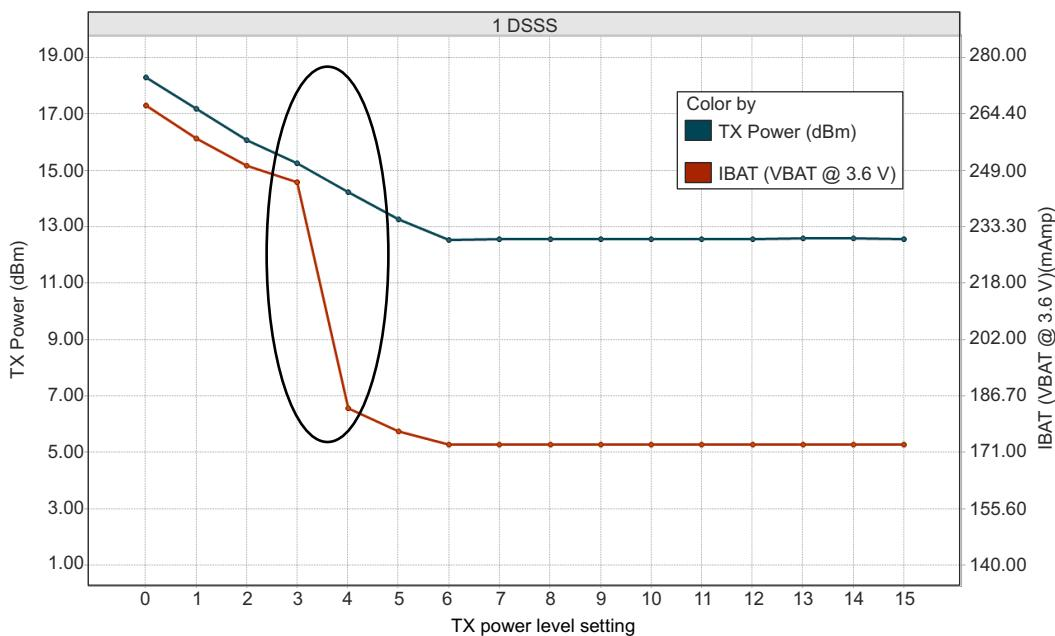
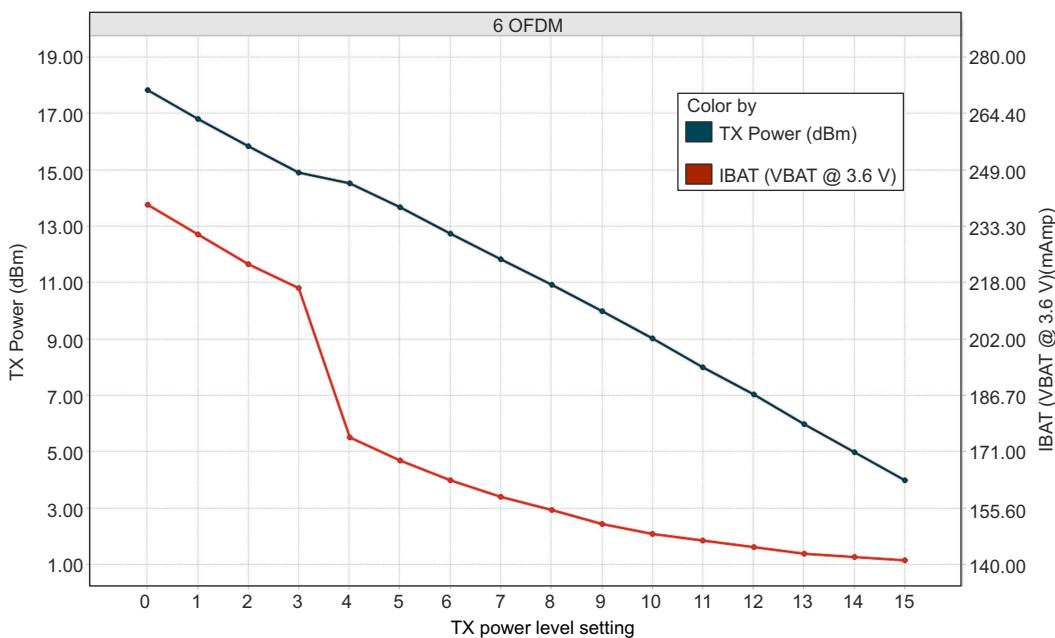
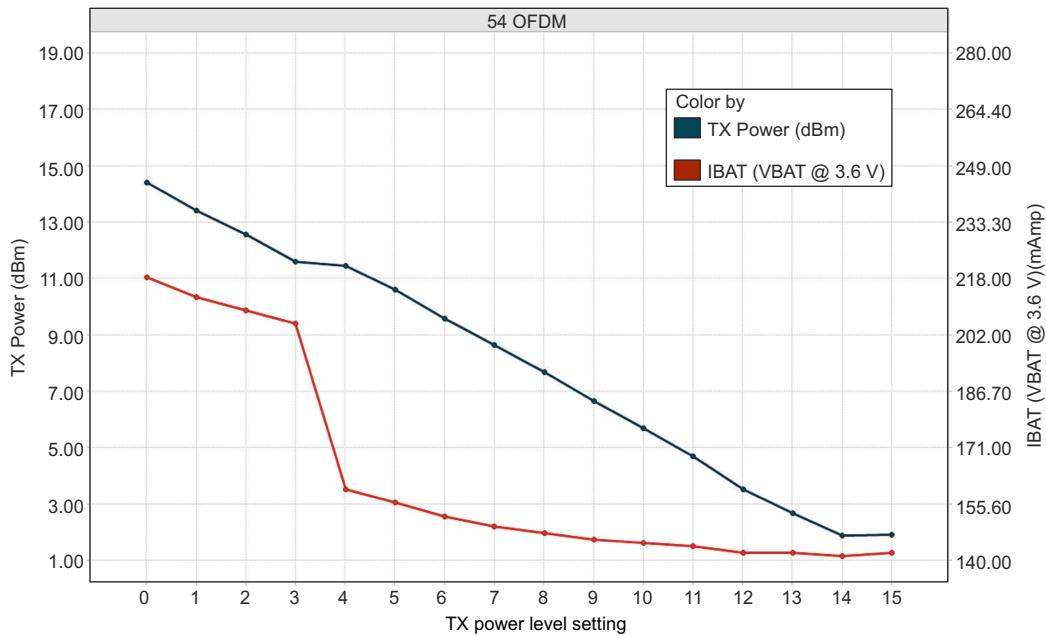

図 7-1. TX Power and IBAT vs TX Power Level Settings (1 DSSS)
図 7-2. TX Power and IBAT vs TX Power Level Settings (6 OFDM)
図 7-3. TX Power and IBAT vs TX Power Level Settings (54 OFDM)
- (1) TX power level = 0 implies maximum power (see 図 7-1, 図 7-2, and 図 7-3). TX power level = 4 implies output power backed off approximately 4 dB.
- (2) LPDS current does not include the external serial flash. The LPDS number of reported is with retention of 256KB of MCU SRAM. The CC3230x device can be configured to retain 0KB, 64KB, 128KB, 192KB, or 256KB of SRAM in LPDS. Each 64-KB block of MCU retained SRAM increases LPDS current by 4 μA .
- (3) DTIM = 1
- (4) The complete calibration can take up to 17 mJ of energy from the battery over a time of 24 ms. In default mode, calibration is performed sparingly, and typically occurs when re-enabling the NWP and when the temperature has changed by more than 20°C . There are two additional calibration modes that may be used to reduced or completely eliminate the calibration event. For further details, see CC31xx, CC32xx SimpleLink™ Wi-Fi® and IoT Network Processor Programmer's Guide.
- (5) The CC3230x system is a constant power-source system. The active current numbers scale based on the V_{BAT} voltage supplied.
- (6) Typical numbers assume a VSWR of 1.5:1.
- (1) TX power level = 0 implies maximum power (see 図 7-1, 図 7-2, and 図 7-3). TX power level = 4 implies output power backed off approximately 4dB.
- (2) LPDS current does not include the external serial flash. The LPDS number of reported is with a retention of 256KB of MCU SRAM. The CC3230x device can be configured to retain 0KB, 64KB, 128KB, 192KB, or 256KB of SRAM in LPDS. Each 64-KB block of MCU retained SRAM increases LPDS current by 4μA.
- (4) The complete calibration can take up to 17 mJ of energy from the battery over a period of 24 ms. Calibration is performed sparingly, typically when coming out of HIBERNATE and only if the temperature has changed by more than 20°C. The calibration event can be controlled by a configuration file in the serial flash.
- (5) Typical numbers assume a VSWR of 1.5:1.
図 7-1, 図 7-2, and 図 7-3 show TX power and IBAT versus TX power level settings for the CC3230S device at modulations of 1 DSSS, 6 OFDM, and 54 OFDM, respectively. For the CC3230SF device, the IBAT current has an increase of approximately 10mA to 15mA depending on the transmitted rate. The TX power level will remain the same.
In **図 7-1**, the area enclosed in the circle represents a significant reduction in current during the transition from TX power level 3 to level 4. In the case of lower range requirements (14dBm output power), TI recommends using TX power level 4 to reduce the current.